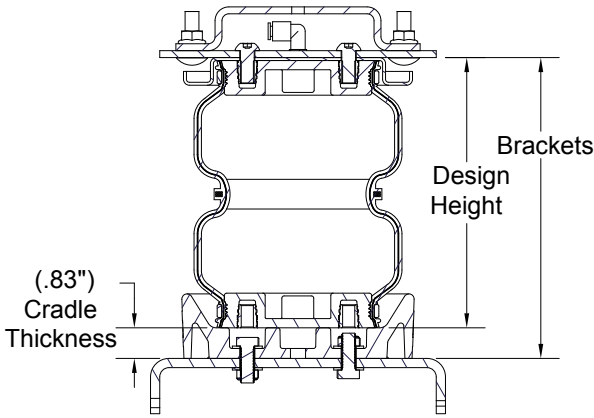
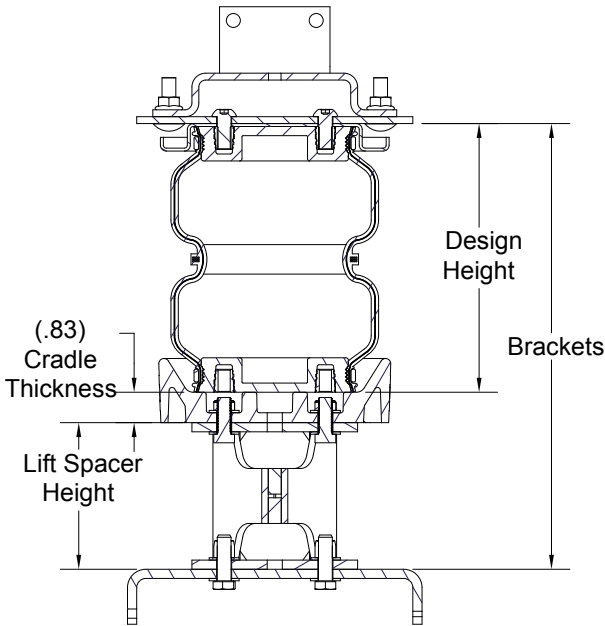

Fig. 2
Fig. 3
2. Determine if adequate clearance is available for the air spring cradle. The universal air spring cradle can be mounted in between air spring kit brackets shown in Figure 2 or can be installed in a lifted application using a lift spacer shown in Figure 3. Depending on the air spring kit purchased you will need to review the installation guide and determine the part number of the air spring included in the kit. In Figure 4 you will find part numbers of the air springs that would be included in your Air Lift kit, along with the required design height for each of the air springs. Now measure the distance between brackets and subtract the thickness of the universal air spring cradle (.83") if your application is like Figure 2. In the case of the air spring lift spacer, you will need to measure the distance between brackets and then subtract the universal air spring cradle thickness and the air spring lift spacer to be used (Fig. 3). This dimension should ideally be close to the design height of the air spring ± 1.0 ". Targeting the upper portion of the range is ideal. You may need to select a lift spacer height that will get you to an acceptable design height range. Ride and air spring performance may be affected if adequate travel is not provided for the air spring. It is highly recommended that during normal suspension actuation the air spring is in contact with the universal air spring cradle and only separates during large events.
If using an Air Lift Company lift spacer kit (see Fig. 3 on previous page) you will not need all the hardware provided with that kit. The hardware in this kit is to be used between the cradle and the lift spacer.